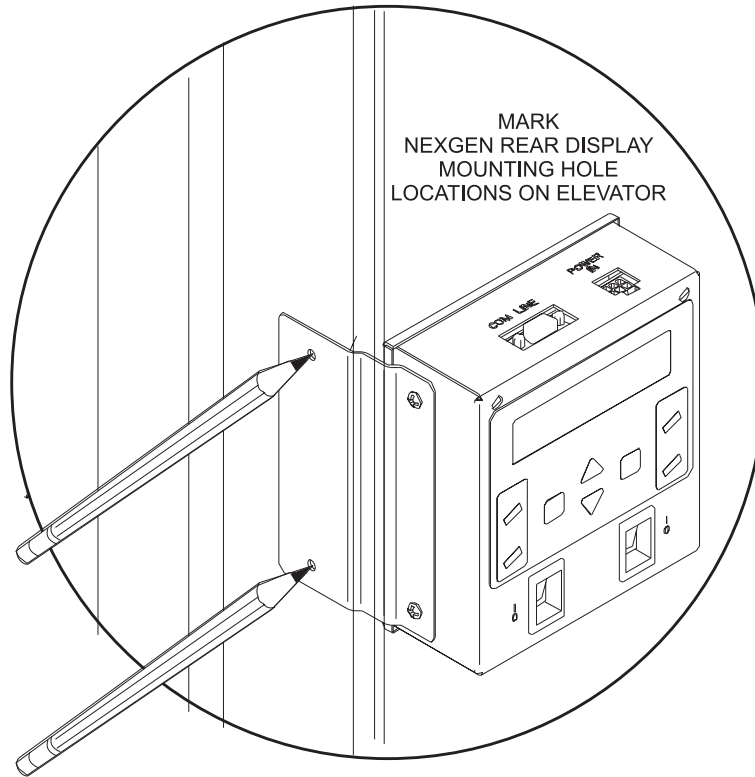

Figure 4
2. Mark location of mounting holes. Refer to *Figure 4*.